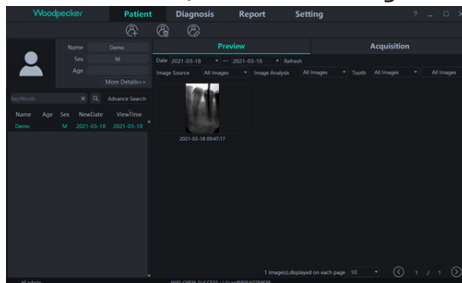

Figure 15
3. Enter the user name and password and click the login button to log in to the main interface, as shown in Figure 15.